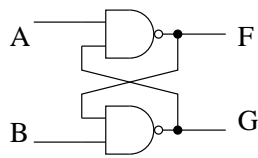

Figure 5.1:
1. (8 pts.) Determine the state table for the circuit in Figure 5.1.